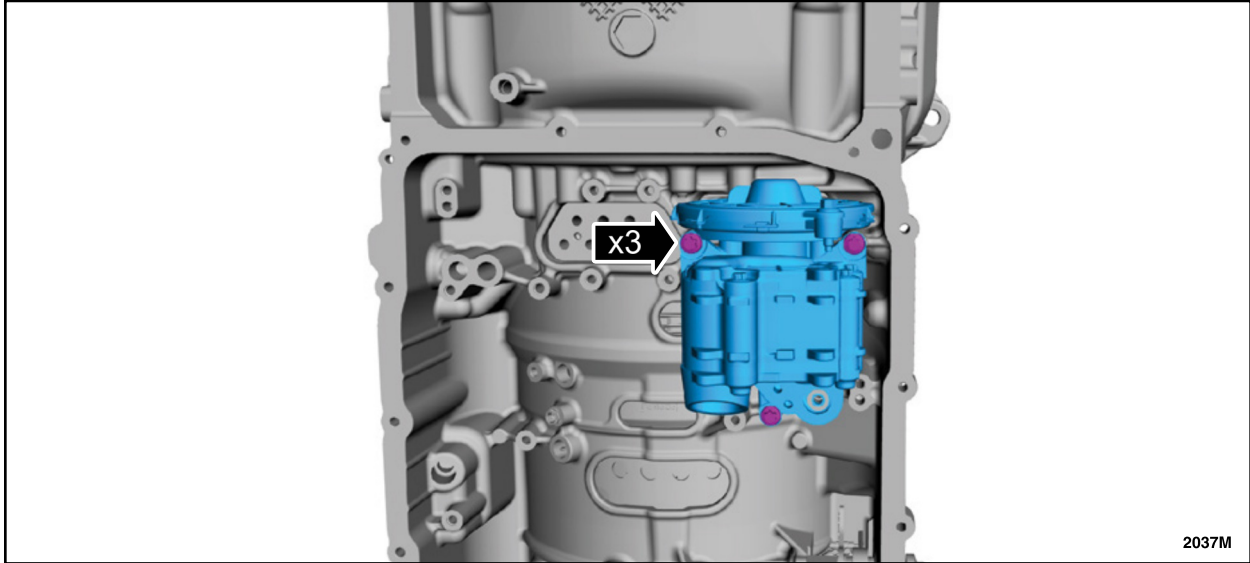

FIGURE 5
8. Remove the bolts and the transmission fluid pump. See Figure 5.